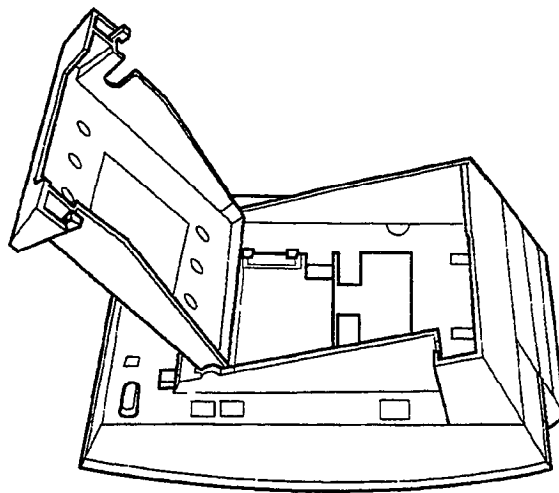

Figure 4-50 Attaching the Unit to the Digital Multiline Terminal
4. Plug the receptacle connector on the unit in the receptacle connector inside the tilt panel on the terminal. Refer to Figure 4-50 Attaching the Unit to the Digital Multiline Terminal.